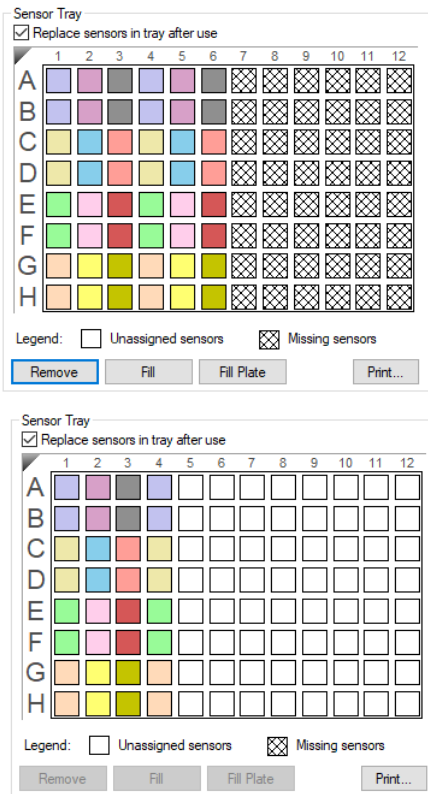

Figure 5-49: Example Assay Using One Partial Biosensor Tray and Biosensors from a Second Tray
2. The example in Figure 5-49 shows that Tray 1 is a partial tray that does not contain enough biosensors for the assay. To view the additional biosensor tray that is required, select Tray 2 from the Sensor Tray drop-down list (Figure 5-49 top). The Sensor Tray Map displays the additional biosensors required for the assay (Figure 5-49 bottom).